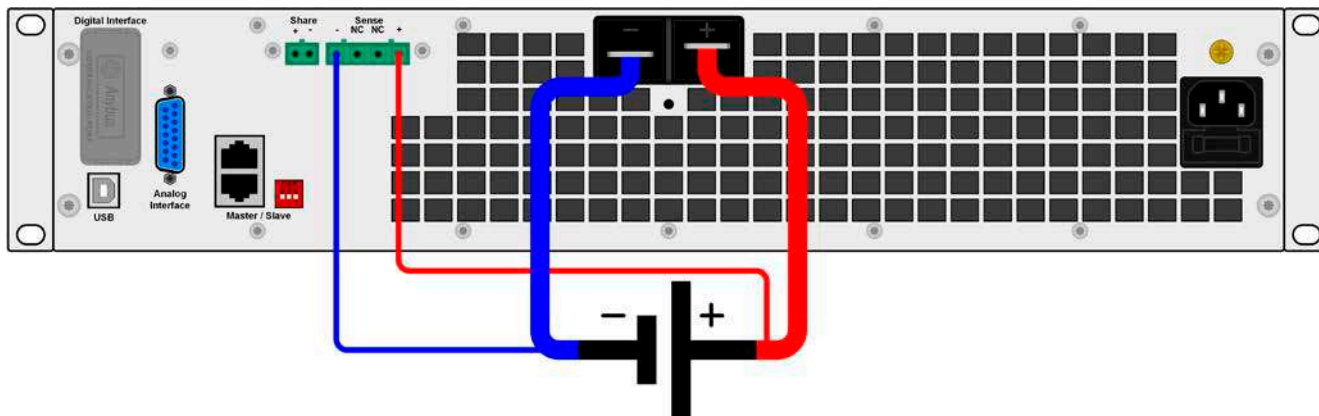

Figure 7 - Principle of remote sensing wiring
- *Remote sensing is only effective during constant voltage operation (CV) and for other regulation modes the sense input should be disconnected, if possible, because connecting it generally increases the oscillation tendency.*
- *Sensing cables must be connected + to + and - to - at the source, otherwise the sense input of the electronic load can be damaged. For an example see Figure 7 below.*